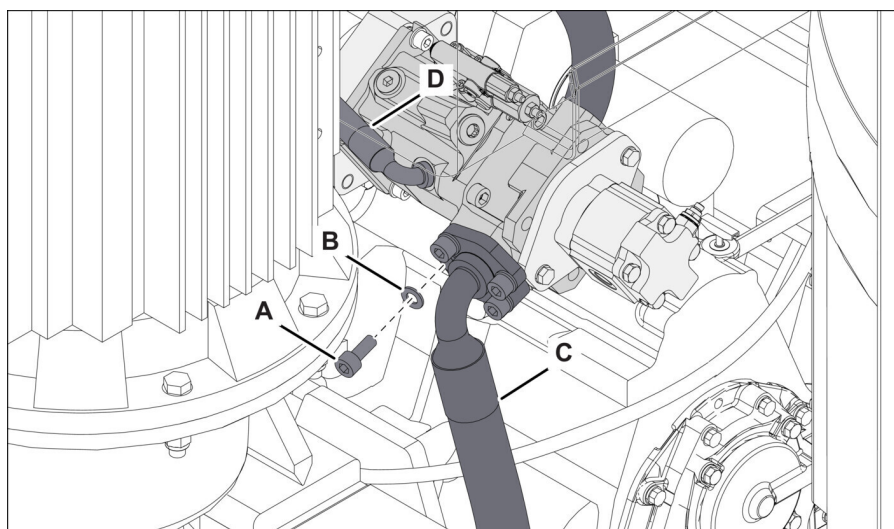

Figure 8
- Remove the screws (Figure 8, item A) and the washers (item B) from the flange halves that attach the hydraulic hose (item C) to the steering positioning pump. Discard the hardware.